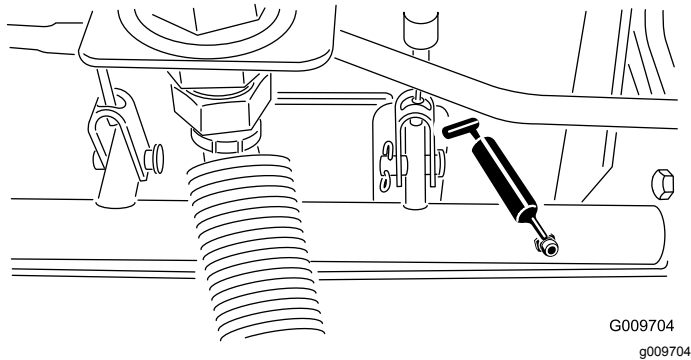

Figure 75
- Brake-shaft pivot bearings (5) as shown in Figure 75